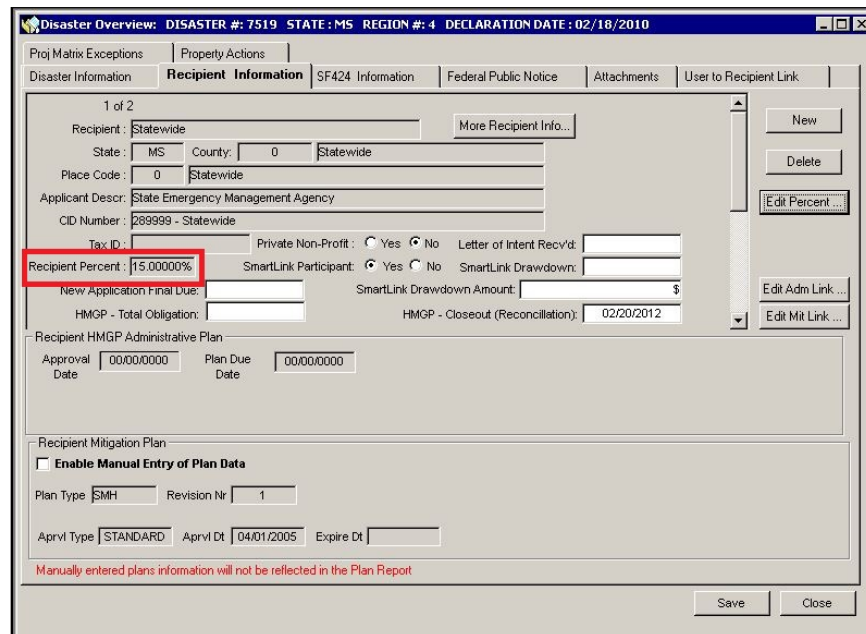

Figure 3-28: Recipient Information Tab with New Percentage
3. The new percentage is displayed on the **Recipient Information** tab (Figure 3-28).